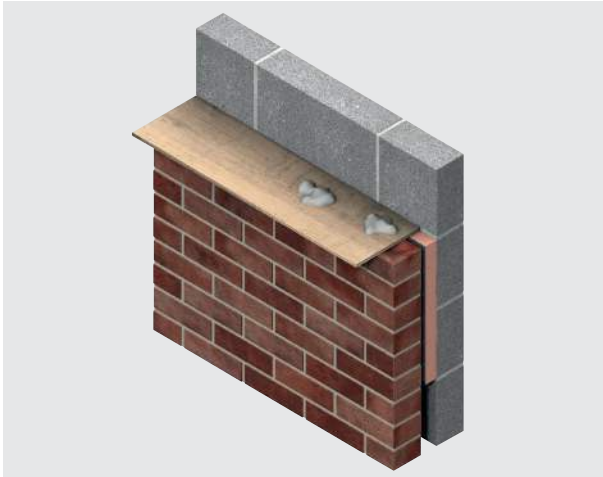

Figure 8 - Use of a cavity board to protect the cavity and insulation board top edge
- Use of a cavity batten or cavity board is recommended to protect board edges and maintain a clear cavity (see Figures 8 & 9) or refer to BBA Certificate 16/5299.